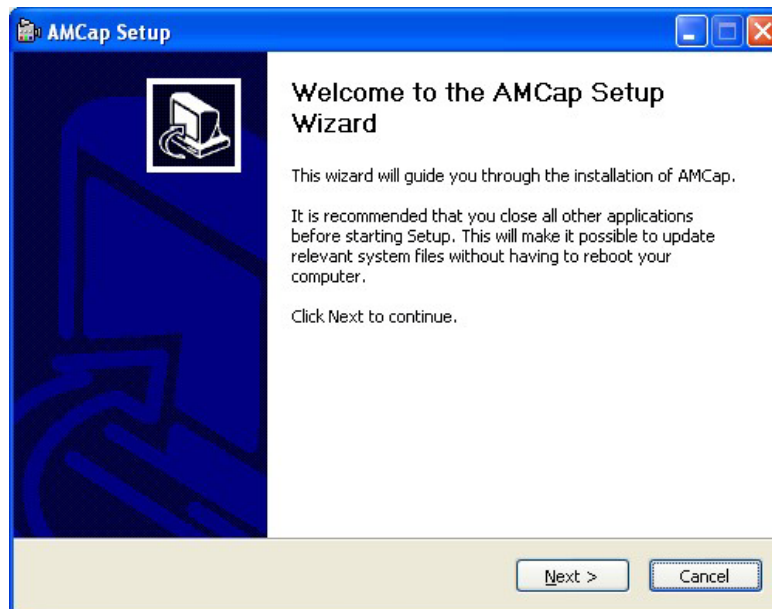

Figure 8-42: AMCap Driver Welcome Screen
Step 4: The **Welcome Screen** in **Figure 8-42** appears.